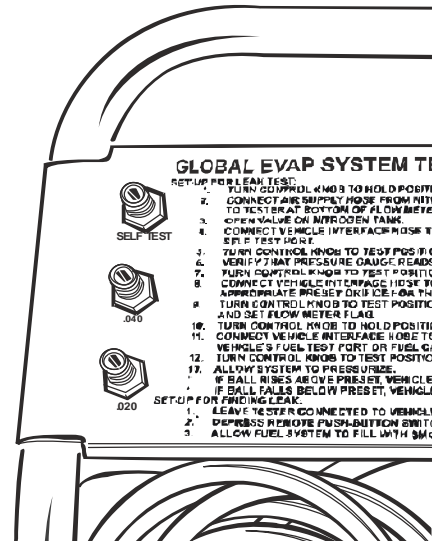

Fig. 7
3. Find the Preset test orifice on the front of the KLI9210 that reflects the standard (.020" or .040") you are testing to (fig. 7). Connect the KL19210 vehicle interface hose to the preset and turn the control valve to the TEST position.